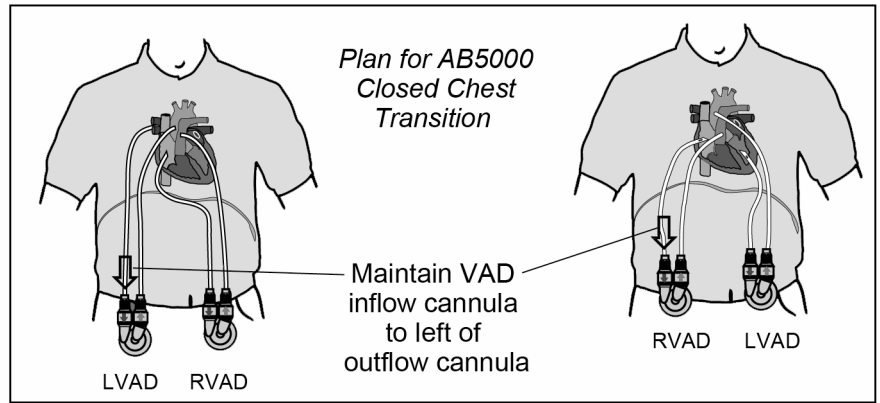

Figure 1
1. Externalize cannula before cannula implantation. (**Fig.1**)